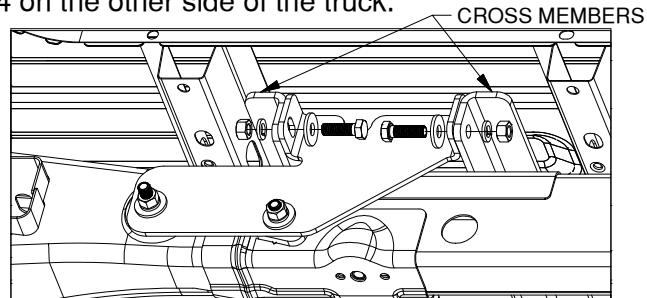

Figure C5: View of driver side wheel well.
- 4. Attach side plates to cross members.** Attach the side plates to the cross members by passing two 1/2" X 1-1/2" cap screws and 1/2" flat washers through the side plate and cross members and securing with 1/2" lock washers and 1/2" finish nuts, as shown in Figure C5. Do not fully tighten at this time. Repeat Steps 3 & 4 on the other side of the truck.